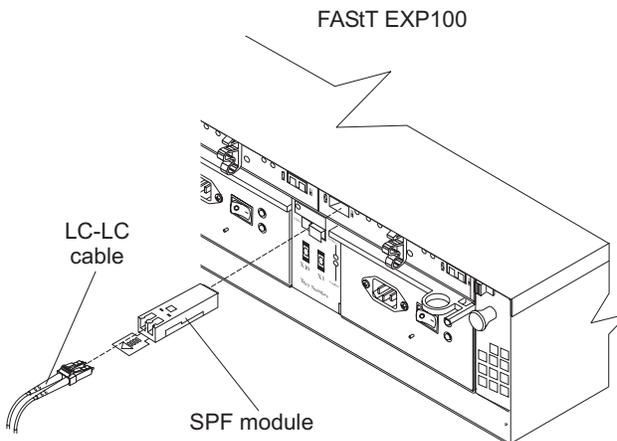

Figure 33. Installing an SFP module and connecting an LC-LC cable to the FAStT EXP100
3. Insert an SFP module into the SFP port located on the back of the FAStT EXP100; then, connect the other end of the LC-LC cable to the SFP module, as shown in Figure 33.